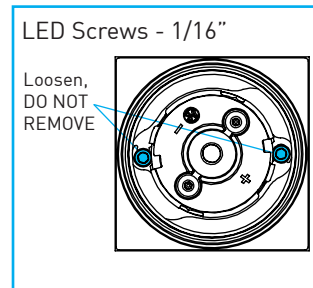

Fig.48
- Remodel:** Using a 1/16" allen key, loosen (**do not remove**) LED screws, rotating LED module counter-clockwise to remove from remodel housing. **(Fig.48)**